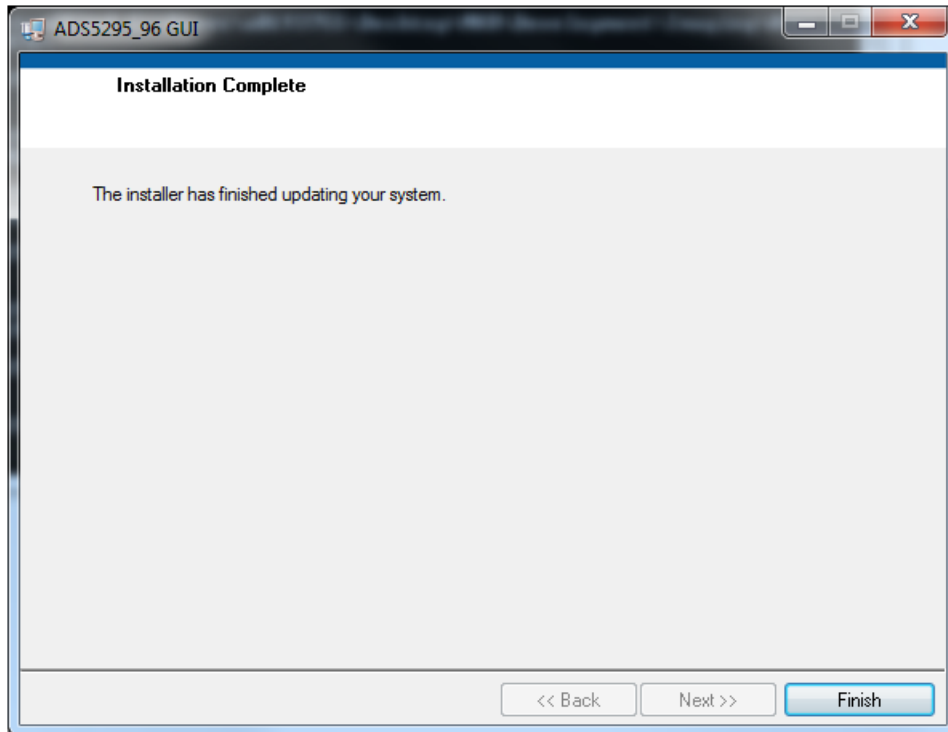

Figure 17. ADS5296 GUI Install (g)
- Upon completion of the installation, the window in Figure 17 appears. Press the *Finish* button to continue.